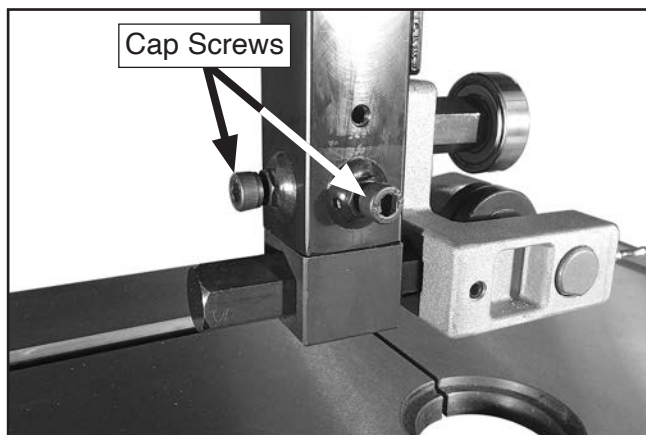

Figure 54. "Euro-style" roller-disc guide assembly installed.
3. Loosen two cap screws on guide post that secure upper blade guide assembly, remove upper blade guide assembly, and replace it with upper "Euro-style" roller-disc guide assembly (see **Figure 54**).